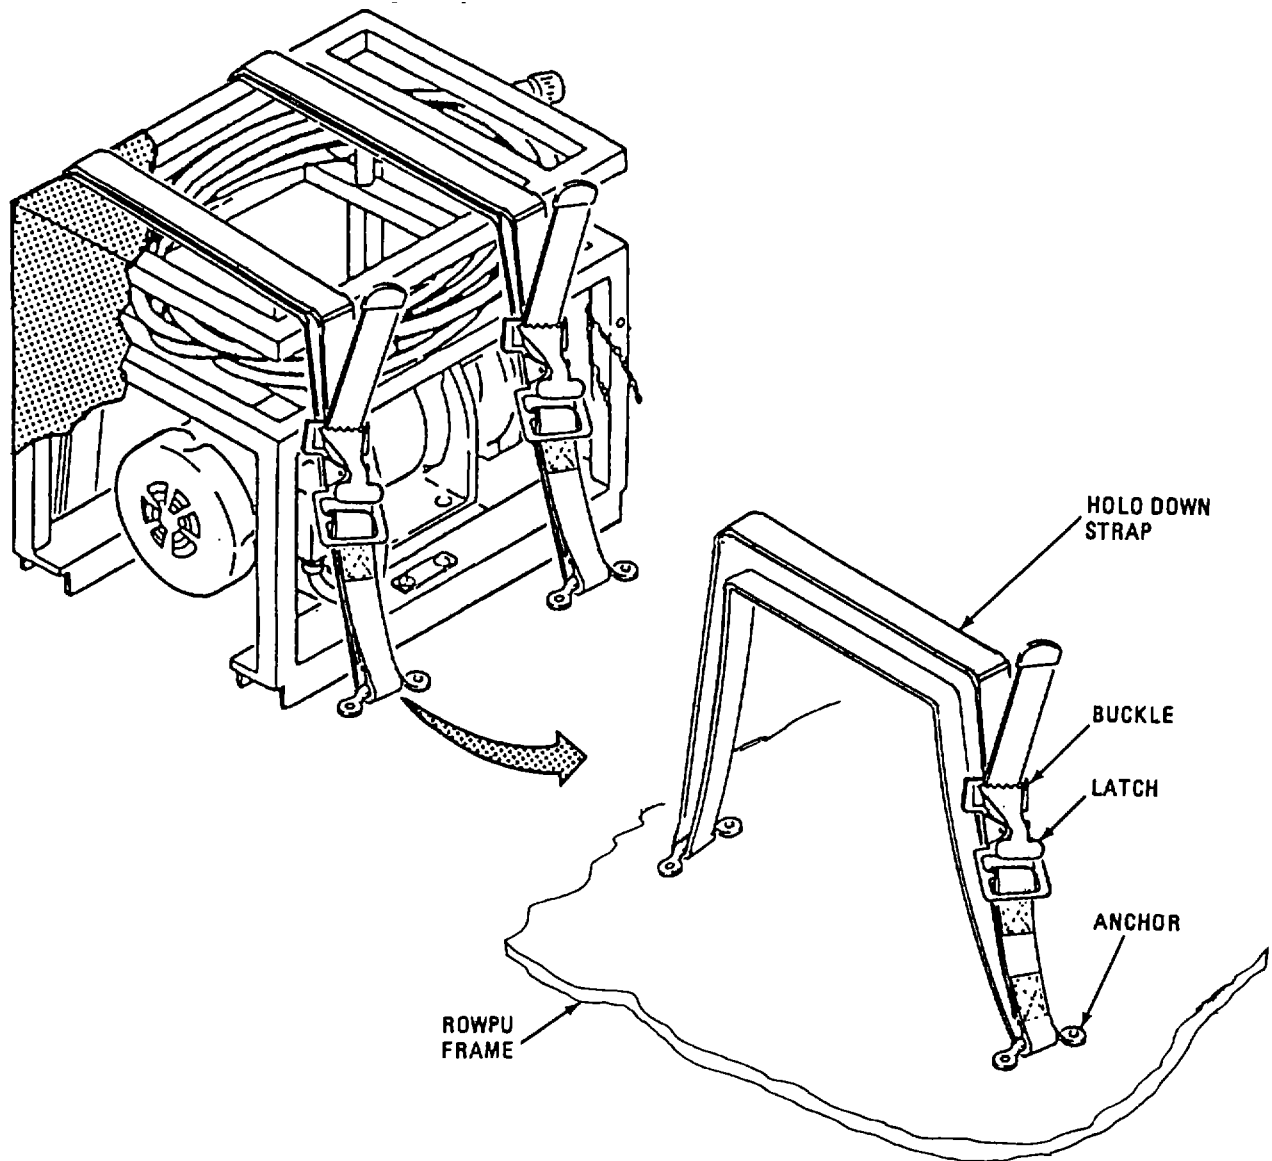

Figure 2-23. Hold Down Straps.
(2) Remove hold down straps. Refer to figure 2-23.
Remove hold down straps as required to aid removal (fig. 2-23).